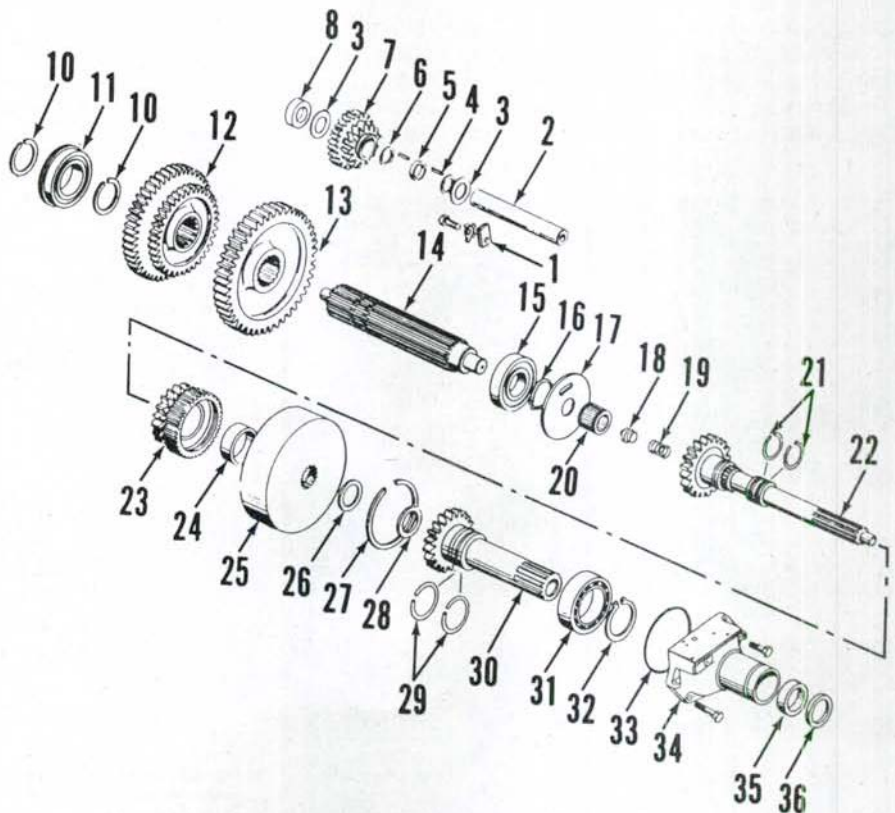
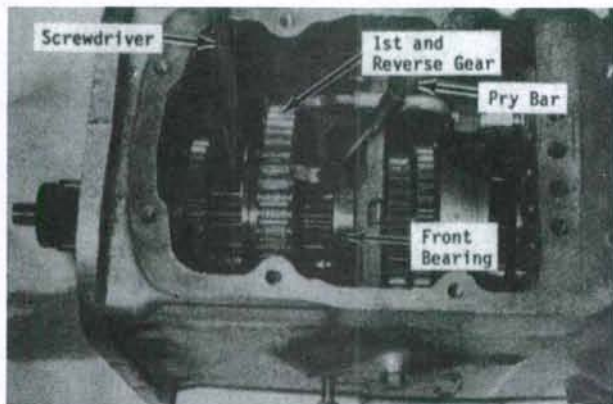

Fig. 148—Exploded view of transmission upper shafts and associated parts, reverse idler gear assembly and Multi-Power clutch unit.
Fig. 149—Pry mainshaft rearward to free front bearing from housing bore.
152. To remove mainshaft (14—Fig. 148) and sliding gears, first remove planetary unit as outlined in paragraph 151 and shifter rails and forks as outlined in paragraph 150. Move low speed sliding gear (13) forward until groove in mainshaft splines is exposed. Insert a large blade screwdriver into the groove to hold gear in position, then insert a pry bar between front of gear and transmission housing wall as shown in Fig. 149. Pry shaft rearward until front bearing
is free from housing bore. Remove snap ring (16—Fig. 148), then pull mainshaft rearward to bump bearing from front of shaft. Remove gears (13 and 12) as shaft is withdrawn rearward. Note that rear bearing (11) is removed and installed over front end of mainshaft.
153. To remove pto input shaft (30—Fig. 148) and retainer (34), first separate transmission from engine as outlined in paragraph 112. Remove clutch throwout bearing, release fork and shafts from front of transmission housing. Disconnect Multi-Power control linkage and hydraulic line. Remove retainer housing cap screws, then withdraw retainer with input shaft as a unit from transmission case.
154. **R&R AND OVERHAUL.** To remove transmission input shaft (22—Fig. 148) and Multi-Power clutch (25), first remove transmission from tractor as outlined in paragraph 145. Remove pto input shaft and retainer housing as outlined in paragraph 153 and remove mainshaft as outlined in paragraph 152.
157. The reverse idler shaft (2—Fig. 148) and gear assembly (7) can be removed from transmission housing after removing the mainshaft and gears as outlined in paragraph 152.